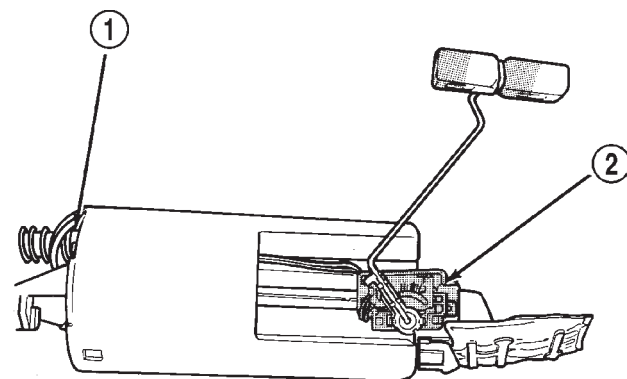

Fig. 21 Level Sensor Removal/Installation
(4) Slide level sensor wires through opening fuel pump module (Fig. 21).